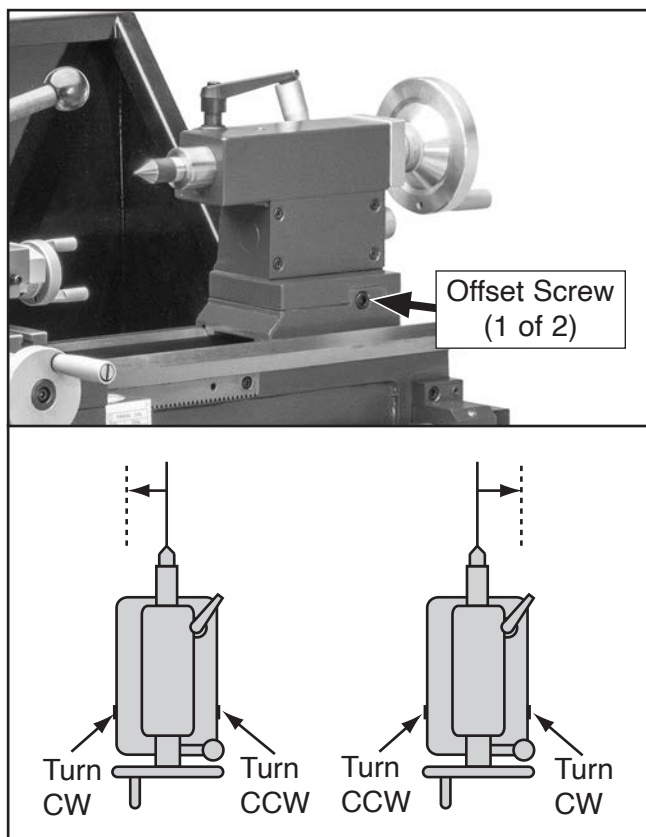

Figure 51. Offset screw adjustment in relation to tailstock movement.
2. Rotate offset screws in opposite directions for desired offset (see **Figure 51**).